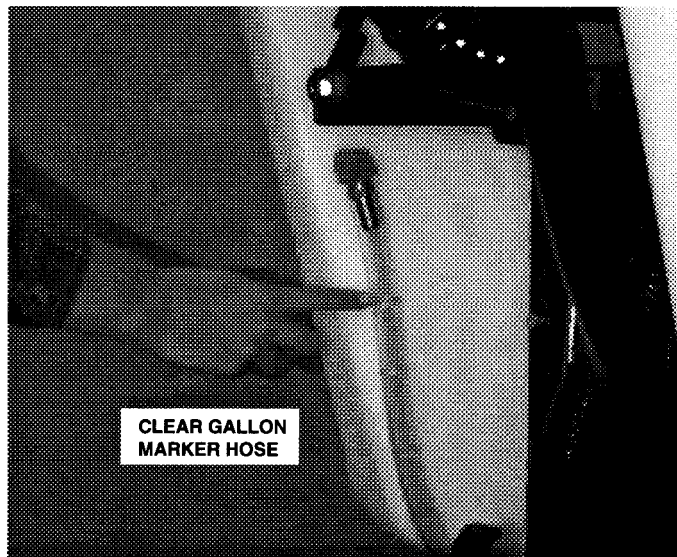

Fig. 12
8. To check remaining cleaning solution in solution tank when cleaning, look at clear gallon marker hose at rear of extractor. Each mark on clear hose equals 5 gal. (22 L) of solution. (Figure 12)